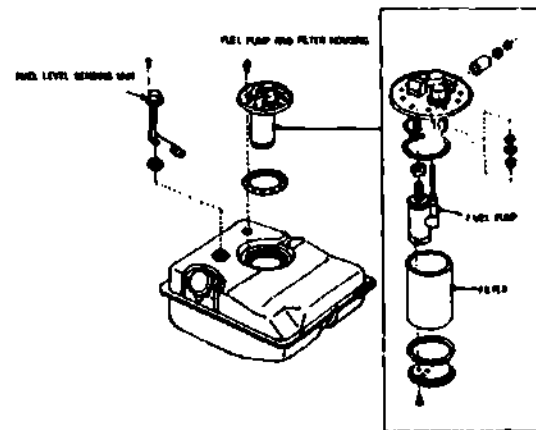

Fig 1-3B. M-151A2 fuel tank.
- (1) **M-151, 1/4-ton truck fuel tank (fig 1-3).** This tank is coated inside and out to prevent rust. The coating used is called terneplate, which is an alloy of tin and lead. A funnel-shaped screen normally fits inside the filler neck on military vehicles to filter (strain) the gasoline before it enters the tank. Such a screen is not usually found in the fuel tanks of civilian vehicles. The screen is easily removed for cleaning. On military vehicles the fuel tank cap seals the filler neck when it is properly tightened. Military vehicles must be able to ford bodies of water, so the filler neck and all other openings in the tank must be waterproof. (Figure 1-3b shows an exploded view of the M-151A2 fuel tank.)